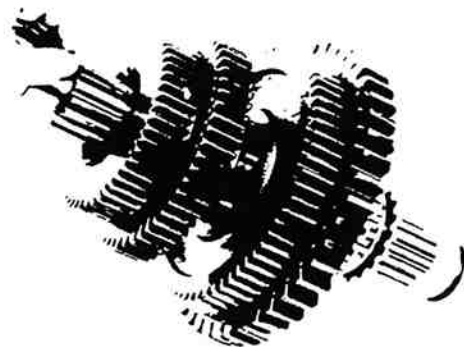

Figure 13-51. Removing Key.
5. Remove the short key from keyway near front of shaft. This key locks the fourth speed gear limit washer in position (figure 13-51).